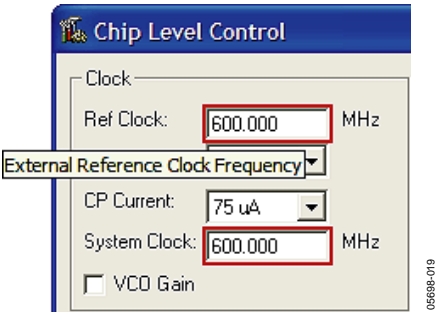

Figure 19.
**Ref Clock** inputs the operating frequency of the external reference clock or crystal. The maximum reference clock frequency of the AD9959 is 500 MHz, which is the default setting of this box. A red outline indicates that the value entered is out of range. (See Figure 19).